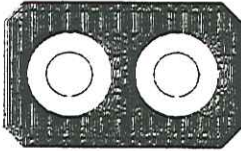

Figure 7. Serviceable lead indicator block used to determine piston stroke
7. Refer to **Figure 7**. If three lead indicator blocks are installed on the stem of the Running Tool, remove them. These blocks are used to determine effective piston stroke when the circulation gate is blown with the Running Tool landed out. However, DRIL-QUIP standard operating procedure shears the Running Tool out of the Lockdown Sleeve before blowing the circulation gate.